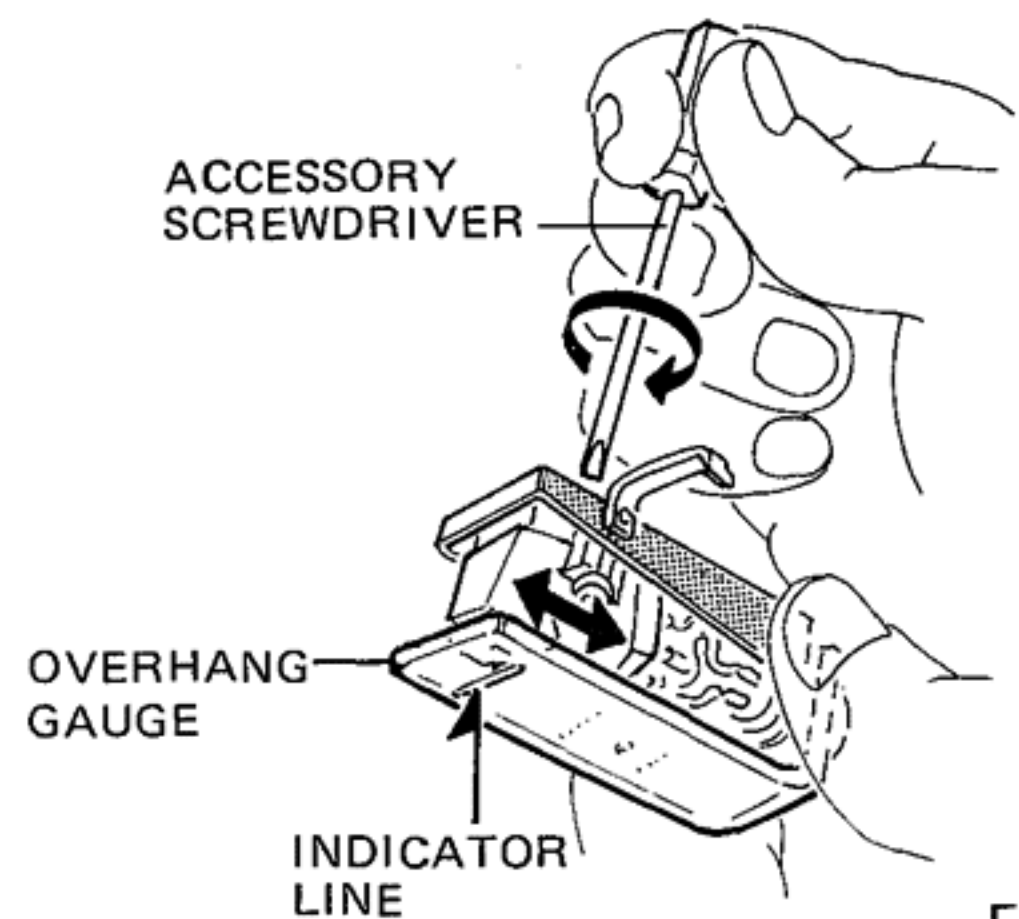
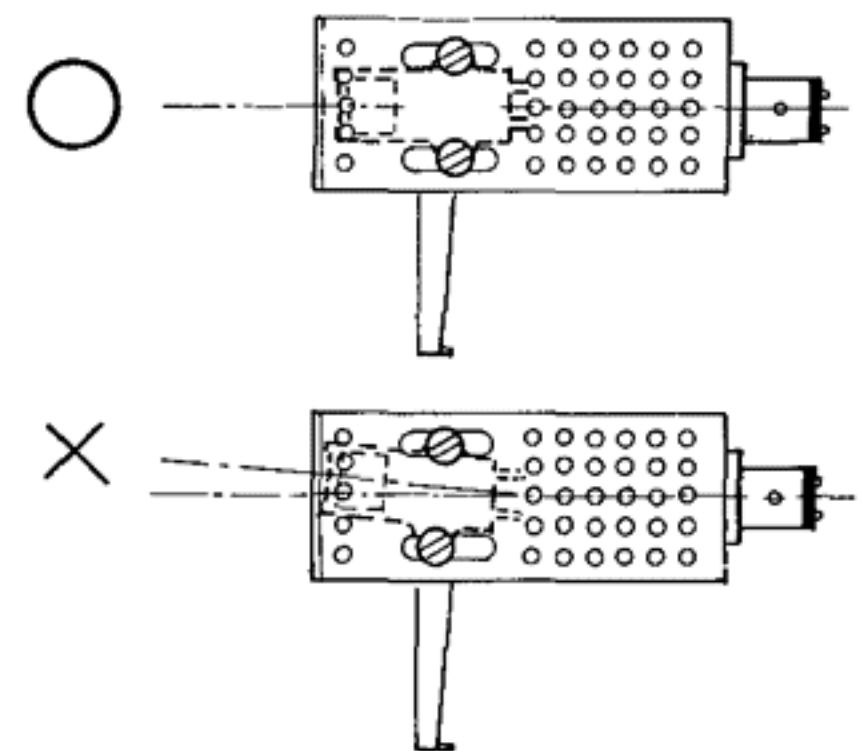

Fig. 6
Fig. 7
4. Adjust the overhang using the accessory overhang gauge. To do this, hold the headshell against the overhang gauge as shown in Fig. 6, align the indicator line on the overhang gauge with the stylus position, and tighten it firmly in place with the mounting screws, being careful that it does not tilt to one side (Fig. 7).